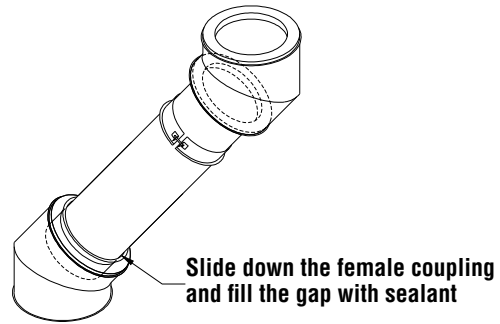

Figure 62 - Variable length, Installation step D
- d. Slide down the female coupling over the male coupling of downstream part and fill the gap between the female coupling and the inner wall with S-2000 or S-650 sealant. See **figure 62**.